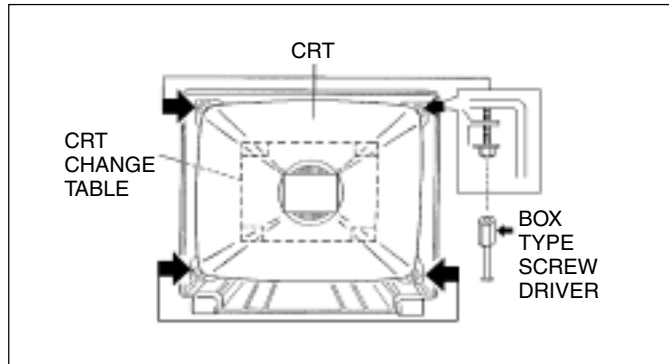

Fig. 5
- 2. While keeping the surface of CRT down, mount the TV set on the CRT change table balanced will as shown in Fig. 5.
- 3. Remove 4 screws marked by arrows with a box type screwdriver as shown in Fig. 5.